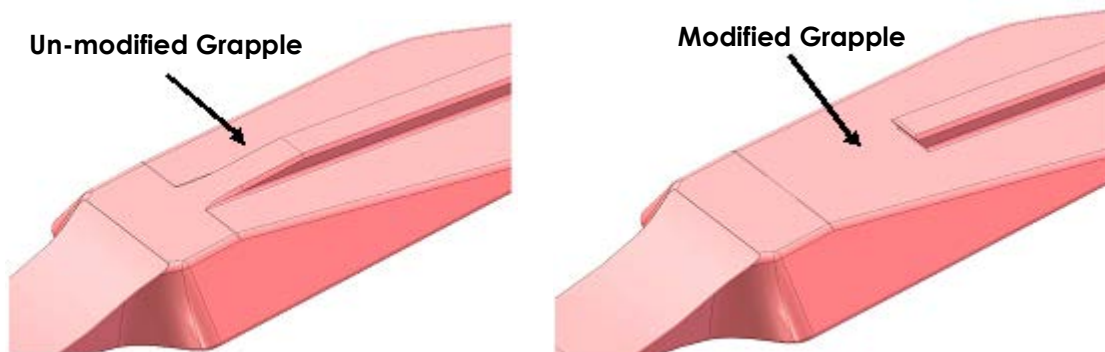

Figure 4
3. Modification of 'on hand' Grapples – (all grapple sizes 12-3/4" to 16-3/4") - qty. 5 per set – See Figure 4.